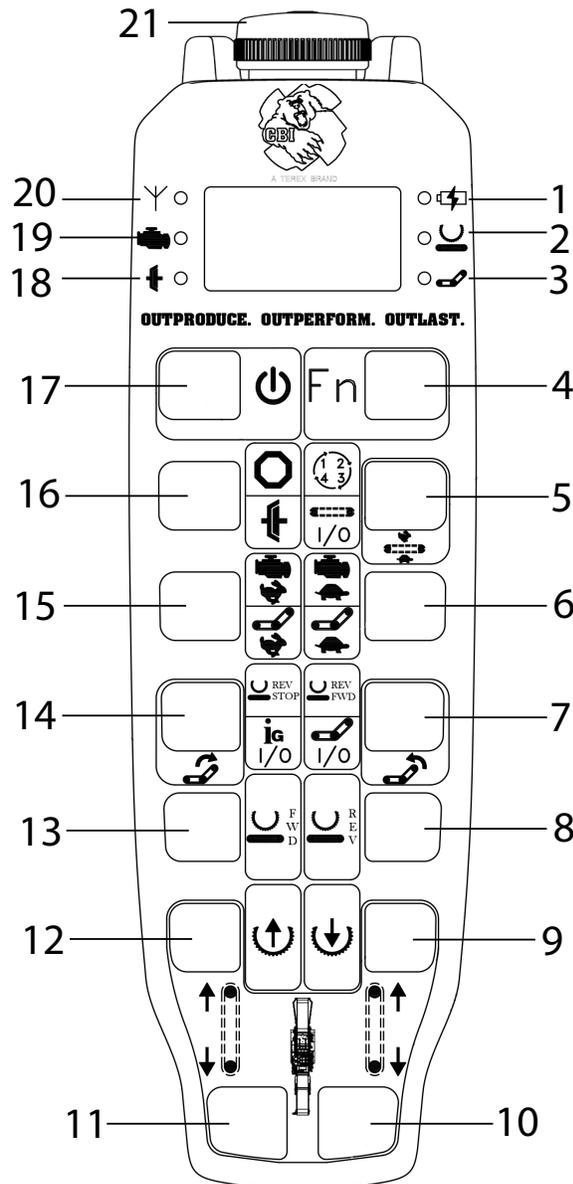

Figure 5.51 - Remote Control
5. Press and hold the pairing button (Figure 5.51 / Ref 16). Continue holding, and press and release the power button (Figure 5.51 / Ref 17). A single beep will occur. Release all buttons.